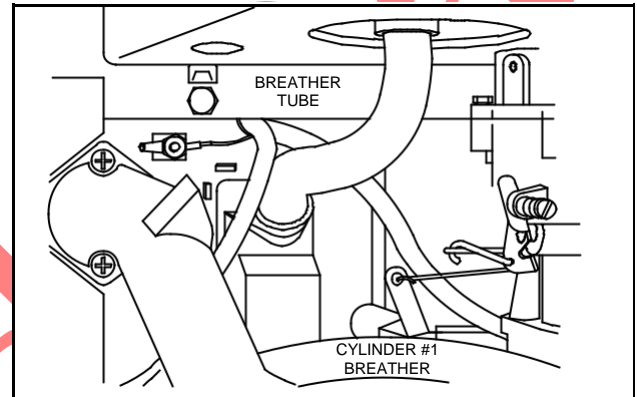

**Fig. 6 – Horizontal Crankshaft Models Before Date Code 91080000**
Horizontal crankshaft twin cylinder engines manufactured before 91080000 have a breather valve in each cover assembly and two (2) breather tubes, Fig. 6.
Before tappet and breather valve assemblies can be removed for inspection, the air cleaner, carburetor and intake manifold must be removed. See Section 3. On horizontal crankshaft engines with two breathers, it is necessary to remove the dipstick tube before the air guide can be removed from #2 cylinder, Fig. 6.